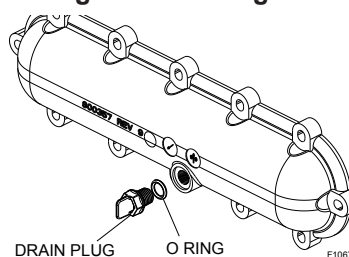
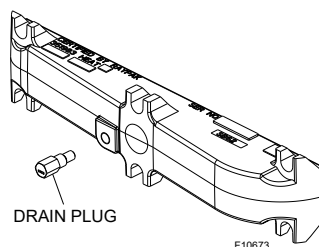

Figure 62. Return Header Drain Plug, Polymer ("P" Prefix Model)
Figure 63. Return Header Drain Valve, Bronze ("B" Prefix Models)
2. Remove the ProTek Shield Assy (if attached). Remove the heat exchanger inspection panel on the side opposite water piping to gain access to the drain plug on the return header. Open drain plug on return header. See **Figure 62** and **Figure 63**.